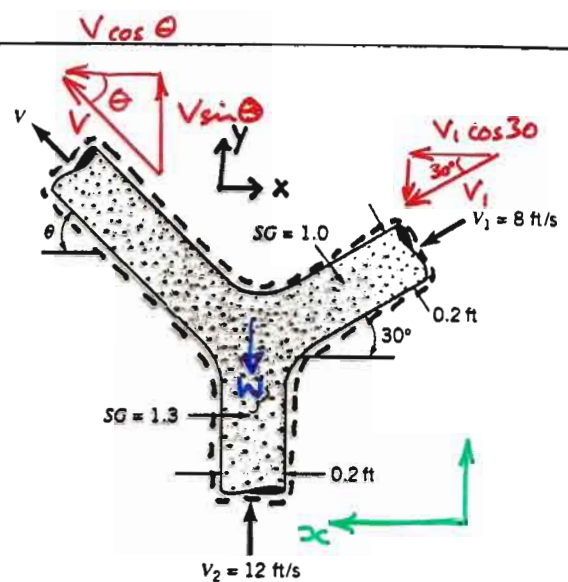

FIGURE P5.59
5.59 Two jets of liquid, one with specific gravity 1.0 and the other with specific gravity 1.3, collide and form one homogeneous jet as shown in Fig. P5.59. Determine the speed,  $V$ , and the direction,  $\theta$ , of the combined jet. Gravity is negligible.